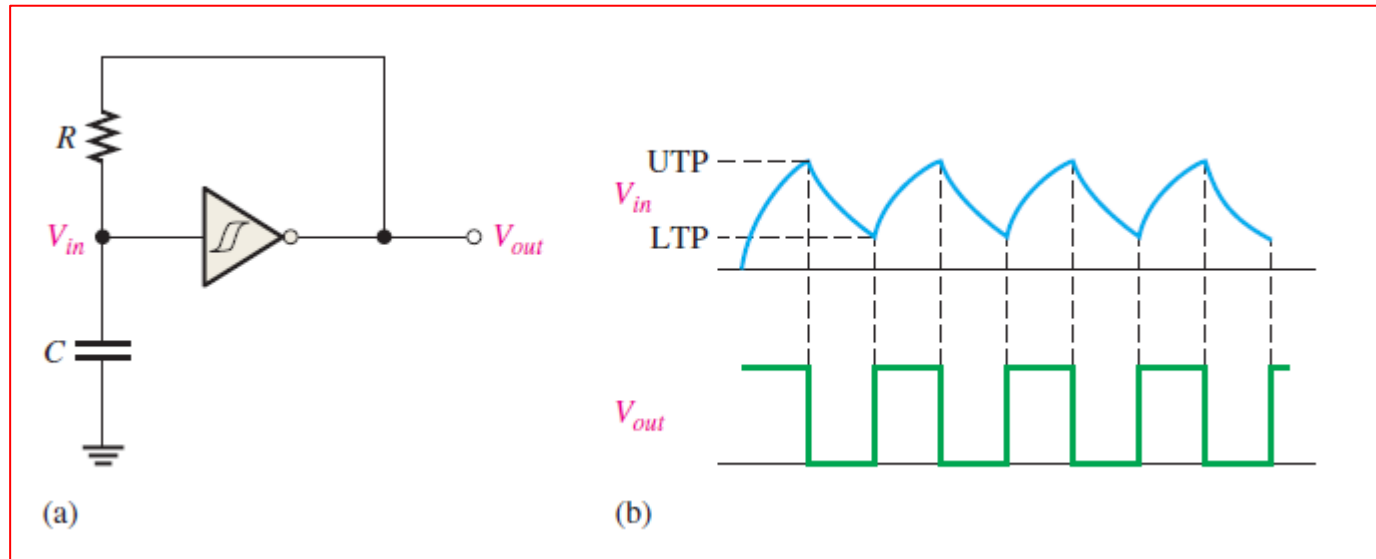

FIGURE 55 Basic astable multivibrator using a Schmitt trigger.
- Figure 55(a) shows a simple form of astable multivibrator using an inverter with hysteresis (Schmitt trigger) and an RC circuit connected in a feedback arrangement.
- The capacitor charges through R until the inverter input voltage reaches the upper trigger point (UTP), as shown in Figure 55(b).